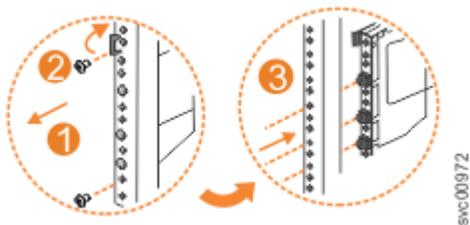

Figure 122. Remove the rail assembly from the front frame bracket
1. Remove the two screws that attach the outer rail section to the front bracket assembly, as shown in Figure 122 on page 186.
2. Remove the rail section by pulling it away from the front bracket, as shown in Figure 122 on page 186.